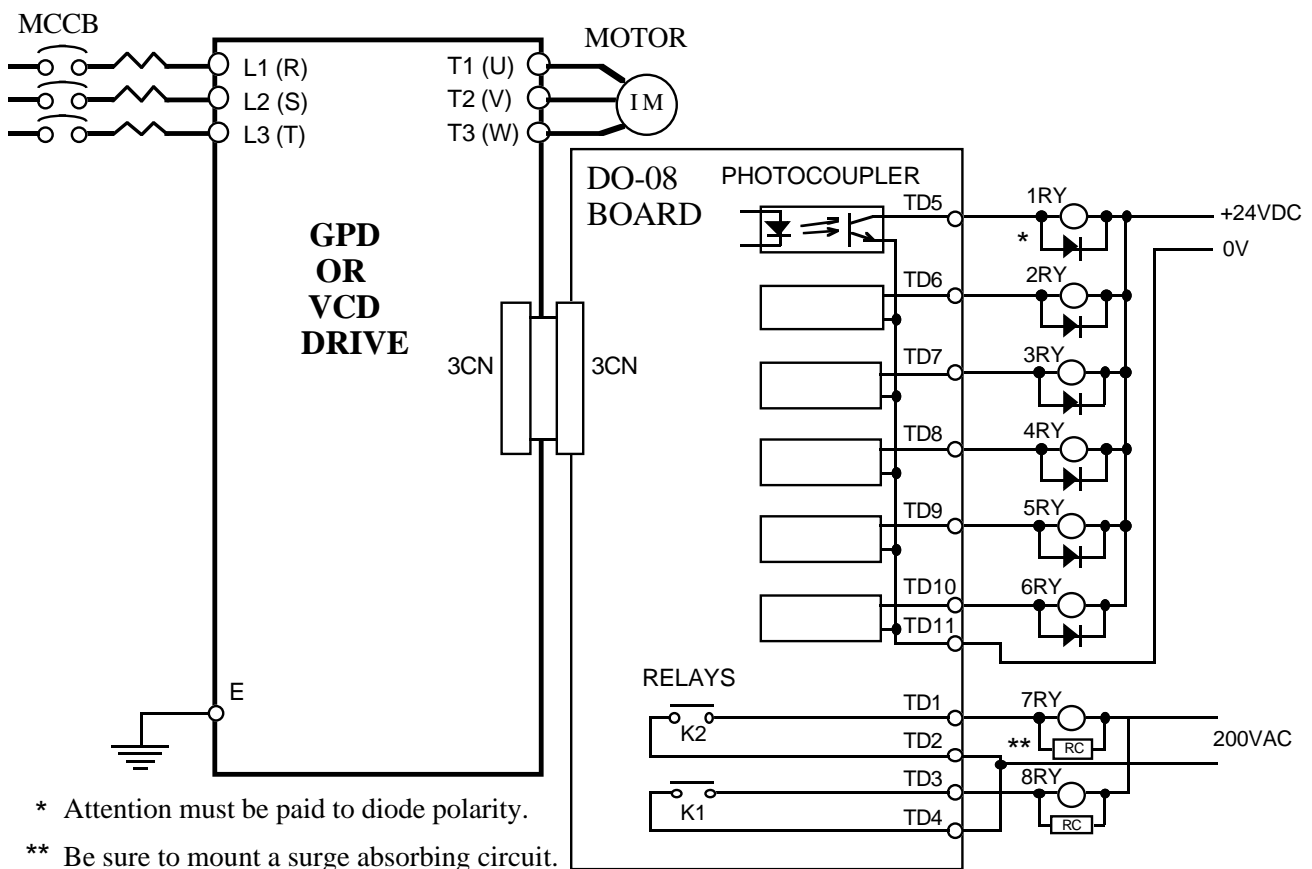

Figure 3. Interconnection for Digital Output (DO-08) Circuit
5. Wiring. See Figure 3 for Digital Output connections. See Table 2 for terminal functions.